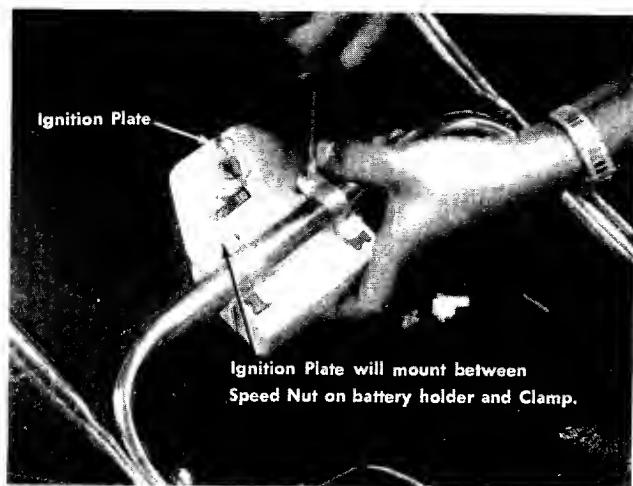

FIGURE 6. ASSEMBLY OF IGNITION PLATE
8. Place the ignition plate in position. See figure 6.
9. Assemble the ignition plate between the battery holders and clamps with two self tapping screws. See figure 6.